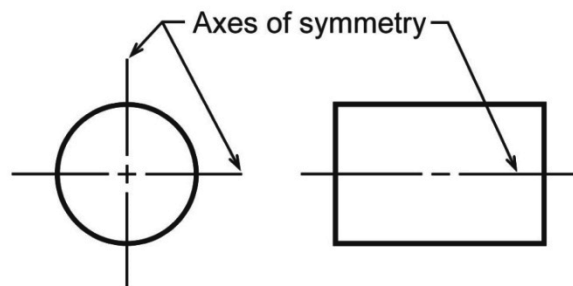
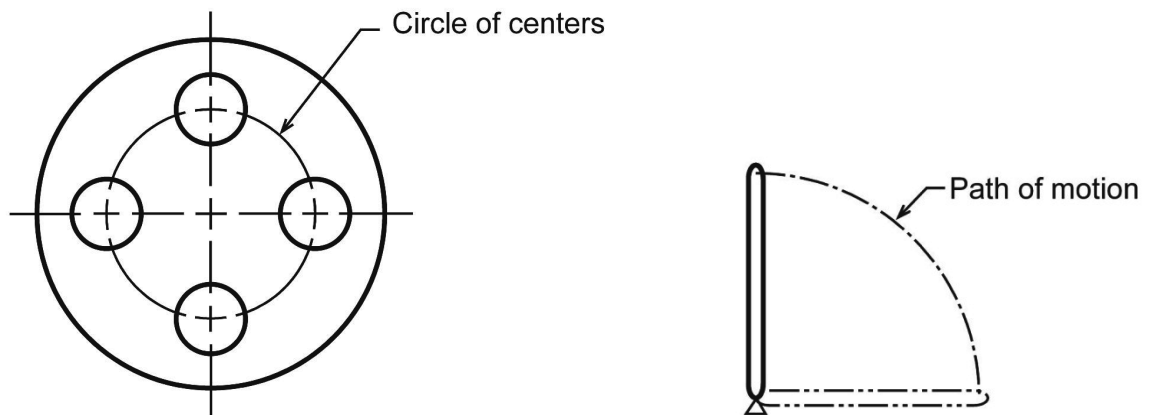

Figure 2.6-3: Axes of symmetry
Figure 2.6-4: Center line uses
Center lines represent axes of symmetry and are important for interpreting cylindrical shapes (Figure 2.6-3). They are also used to indicate circle of centers and paths of motion as shown in Figure 2.6-4.
- Rule 1. Center lines should start and end with long dashes (see Figure 2.6-3).
Phantom lines are used to indicate alternate positions of moving parts (see Figure 2.6-4). They may also be used to indicate adjacent positions of related parts and repeated detail as shown in Figures 2.6-8 and 2.6-9. They are also used to show fillets and rounds in the view that does not show the radius. In this case, the phantom lines are used to show a change in surface direction (see Figure 2.6-10).